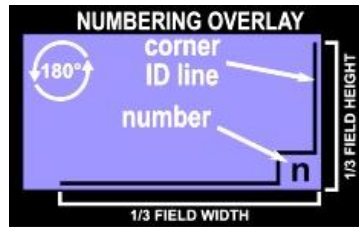
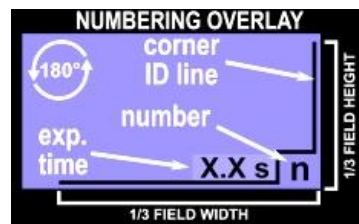

Figure 37 - Step & Repeat mode with "Number exposures" option
Figure 38 - "Add exposure time on overlay" option
- **"Number exposures..."**, **"...and add exp. time"** options. Those options respectively add on each design an overlay on their bottom right corner indicating their number order (Figure 37) and their exposure time in s (Figure 38).